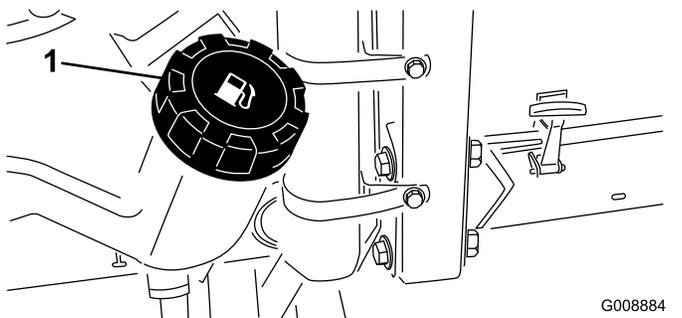

Figure 22
1. Clean the area around the fuel-tank cap (Figure 22).